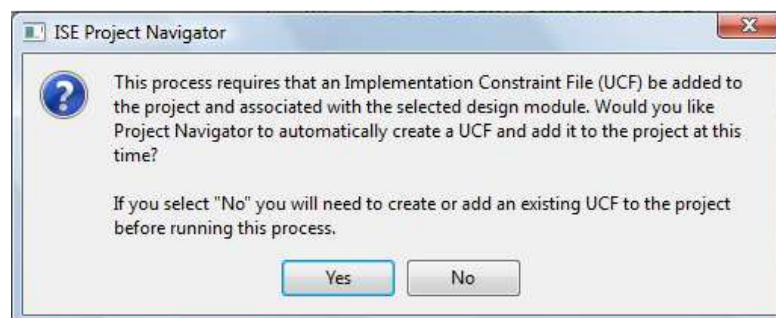
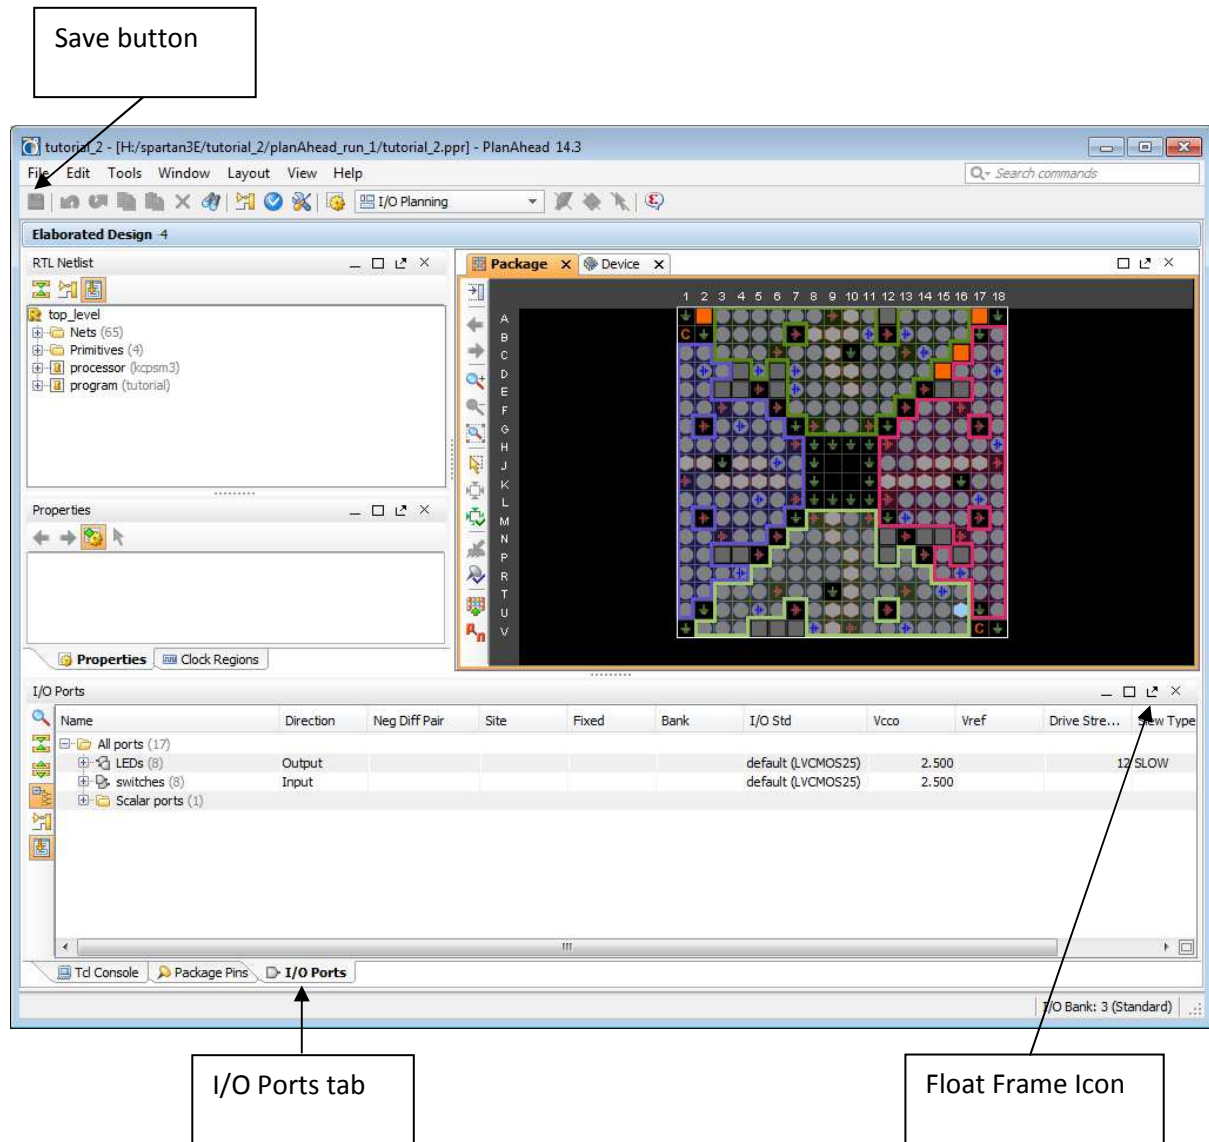
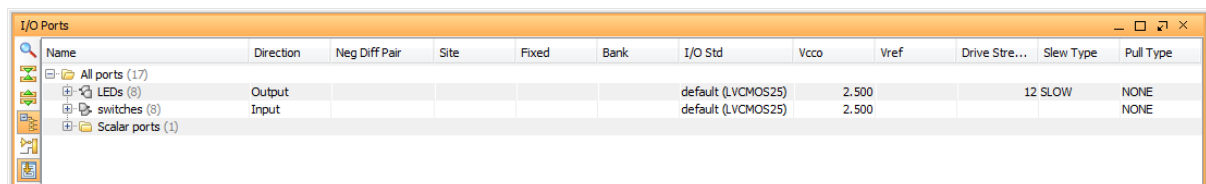
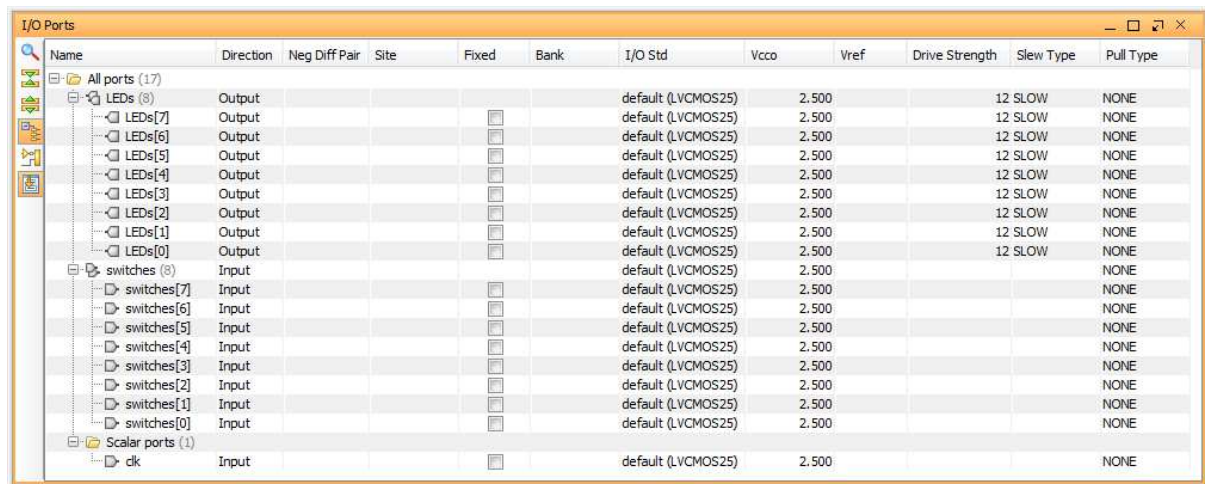

Figure 5.29: Dialog Box asking if you wish to create an Implementation Constraint File.
Figure 5.30: Initial appearance of PlanAhead window.
Figure 5.31: I/O Ports displayed in a separate window.
Figure 5.32: I/O Ports window with individual ports expanded.
2. Double-click on **I/O Pin Planning (PlanAhead) – Pre-Synthesis**. The first time this is done, the window of Figure 5.29 will appear, asking whether it is OK to create a UCF file. Click **Yes**.
3. After clicking **Yes** in Figure 5.29, the **PlanAhead** window of Figure 5.30 will appear. Click on the **I/O Ports** tab, and then the **float frame** icon. This displays the I/O Ports in a separate window, as shown in Figure 5.31.
- Click on the '+' next to **LEDs(8)**, **switches(8)** and **Scalar ports(1)** in Figure 5.31. This will display all individual input/outputs as shown in Figure 5.32.
- Click the **Save** button in the PlanAhead window (location of Save button is shown in Figure 5.30), to save the entered pins. The PlanAhead window can be closed at this stage.